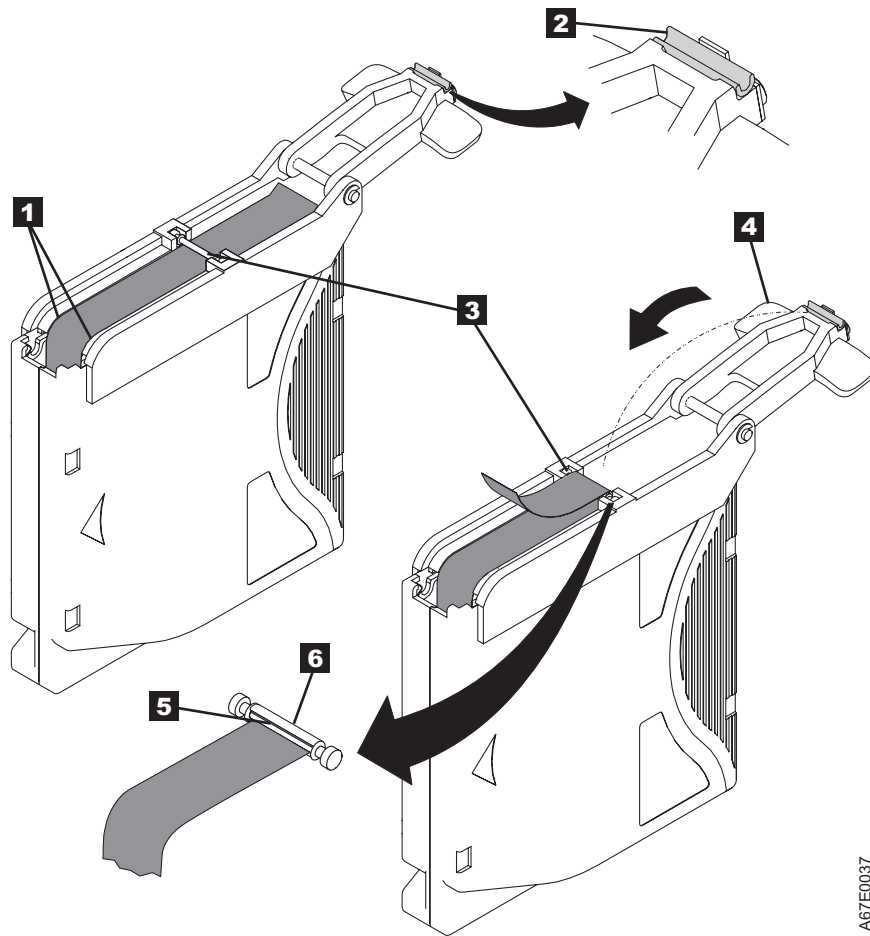

Figure 9-15. Attaching the leader pin to the tape
7. Position the tape in the alignment groove of the leader pin attach tool (see **1** in Figure 9-15 on page 9-17).
8. Place a new C-clip into the retention groove **2** (Figure 9-15 on page 9-17) on the leader pin attachment tool and make sure that the clip's open side faces up.
9. Place the leader pin (from step 6) into the cavity **3** (Figure 9-15 on page 9-17) of the leader pin attach tool.
10. Fold the tape over the leader pin and hold it with your fingers (see Figure 9-15 on page 9-17).